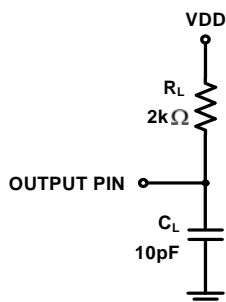

FIGURE 2. EQUIVALENT LOAD CIRCUIT FOR DIGITAL OUTPUT TESTING
- Transition time to high impedance state is dominated by RC loading on the SDOUT pin. Specified value is measured using equivalent loading shown in Figure 2.